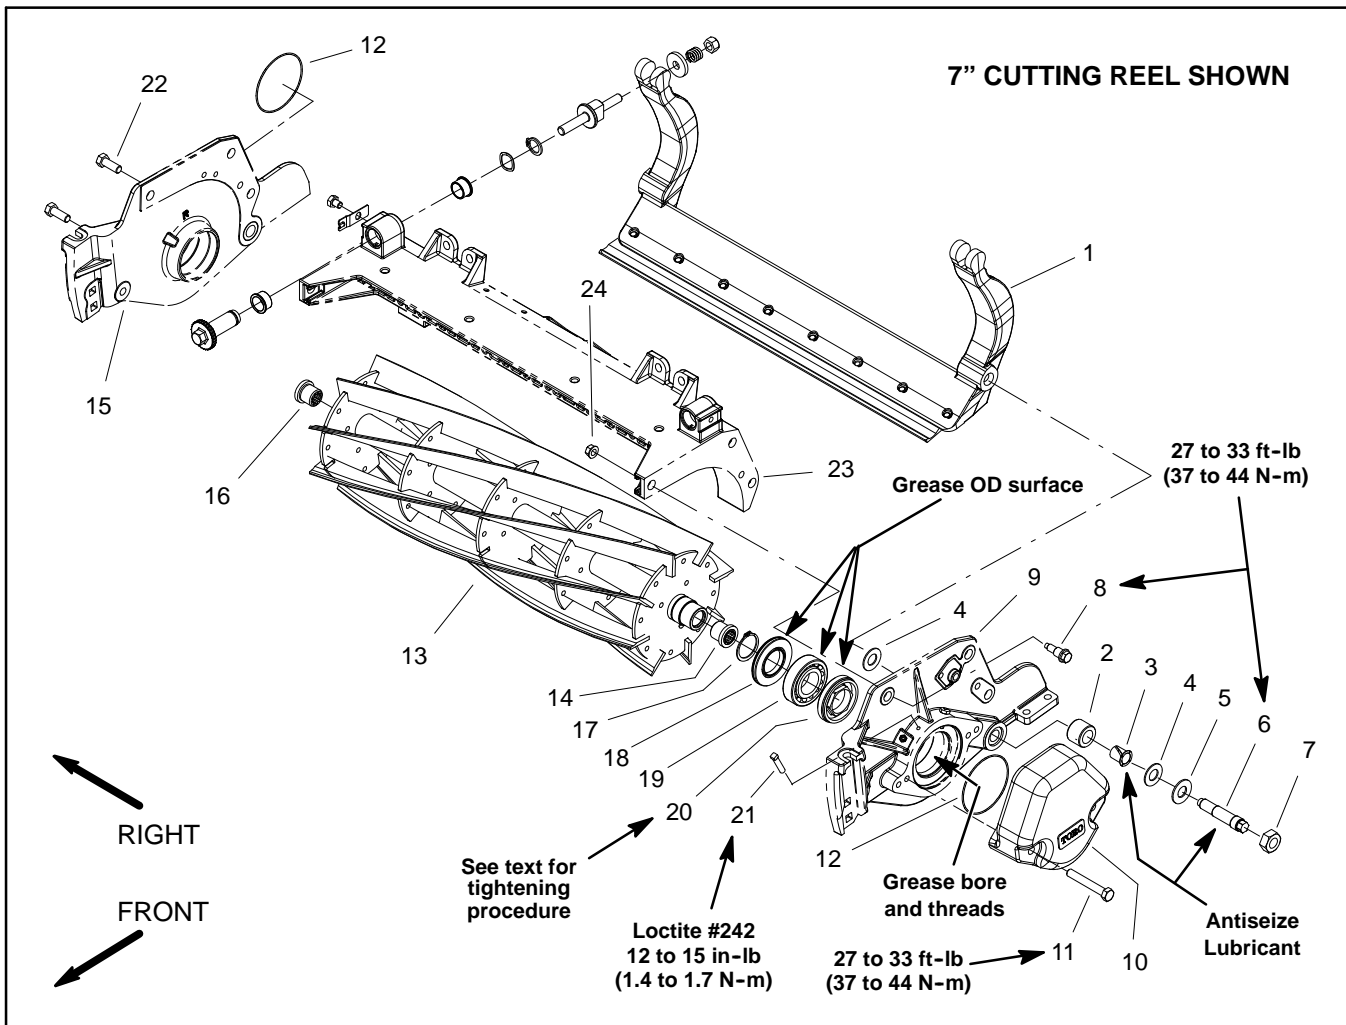

Figure 26
Reel Assembly Removal (Fig. 26)
3. If cutting unit is equipped with a counterweight on LH side plate (as shown in Figure 26), remove the two (2) cap screws securing the counter weight to the side plate. Remove counter weight from the cutting unit. Remove and discard o-ring from counter weight.
Reel Assembly Installation (Fig. 26)